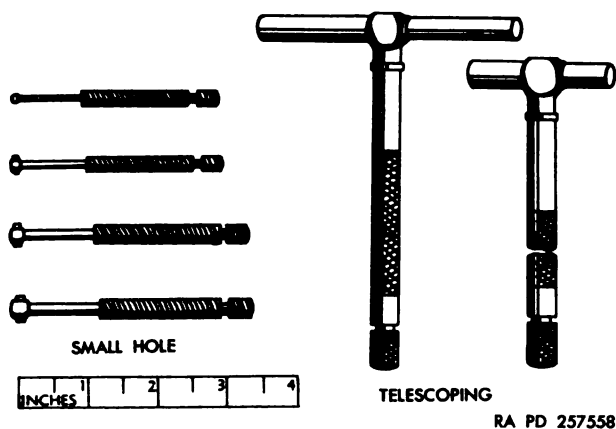

Figure 88. Small hole and telescoping gages.
a. Small Hole Gages. Small hole gages (fig. 88) are adjustable, having a rounded measuring member. A knurled screw in the end of the handle is turned to expand the ball-shaped end in small holes and recesses. A micrometer caliper is used to measure the ball end. Maximum measuring capacity is $\frac{1}{2}$ inch.
b. Telescoping Gages. Telescoping gages (fig. 88) are used to gage larger holes and to measure inside distances. These gages are equipped with a plunger that can be locked in the measuring position by a knurled screw in the end of the handle. Maximum measuring capacity is 6 inches. Measurements must be calipered on the gage by a micrometer, as in the case of the small hole gages.